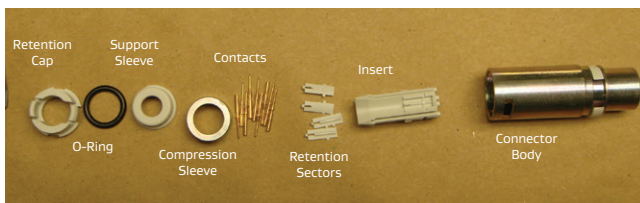

Figure 1: Male connector pin (980-2002-551)
1. Gather the tools and materials required for assembly and termination (Figures 1 – 6). Please refer to the manufacturer for recommended tools